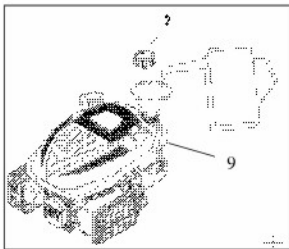

Fig. 5
1. Remove the fuel cap (2).
2. Add fuel to the bottom of the fuel level limit in the neck of the fuel tank (9). (See Fig. 5)